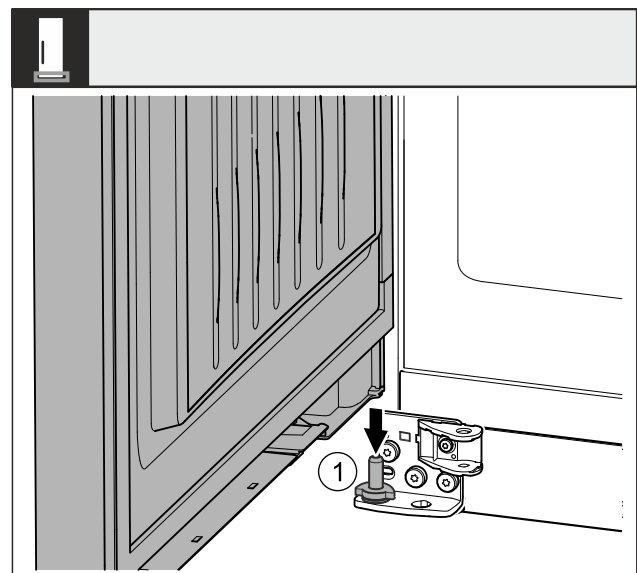

Fig. 33
- ▶ Fit the door onto the lower bearing pin Fig. 33 (1) from the top.